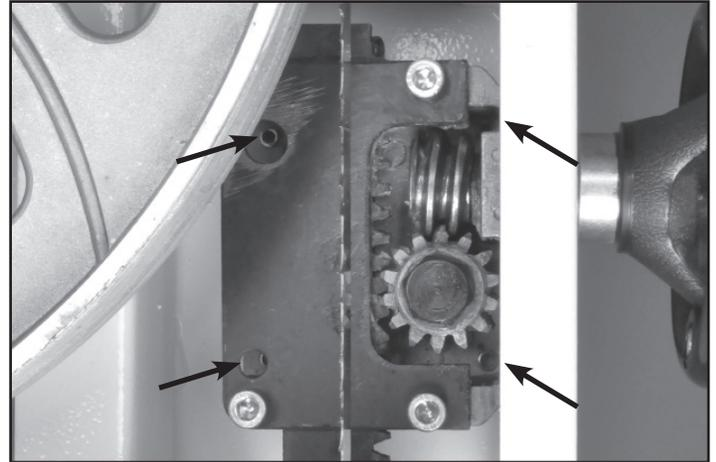

FIGURE 31
3. Open the top door and lower the blade guard all the way down to the table to access the Guide Bracket (#4D). Fig. 31.
5. There are also four Set Screws (#5D) set in the rear of the guide bracket near the corners. If the guard post needs to be angled slightly towards the front or back of the table, or even twisted on an angle, make the adjustment with these screws. Fig. 31.